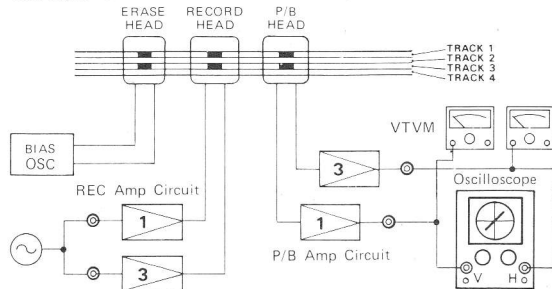
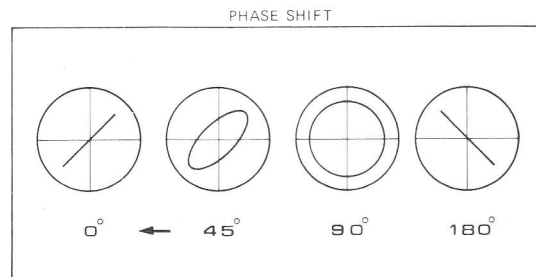

Fig.6-4 Connect the Test Equipment
Fig.6-5 Lissajous Figure
Refer to Fig. 6-3, Fig. 6-5 or section 2 on page M-20.
- (1) Connect the signal generator to the line input jacks, and apply a 20 KHz signal of -30 dB to the line inputs.
- (2) After the above connections are completed, load the blank tape (Scotch #212) on the deck and push the record button and play button simultaneously to enter the record mode.
- (3) Adjust the head azimuth by turning azimuth screw, so that the line output level becomes maximum and phase shift is less than 45° by observing the lissajous figure on the oscilloscope as shown Fig. 6-5 on page 20.
- (4) When the azimuth adjustment is completed, paint-lock the azimuth screw.
Connect the test equipment as shown Fig.6-4. Adjust the Playback Head Azimuth Screw carefully so that the signals of Left and Right Channels are to be in phase. Then adjust Rec Head Azimuth Screw so that the phase shift is less than 45° . (Phase Shift Pattern as shown in Fig.6-5.)